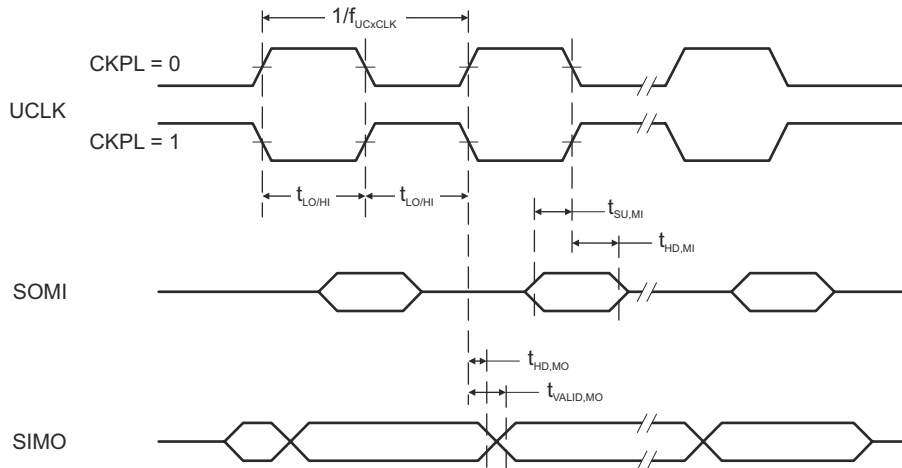
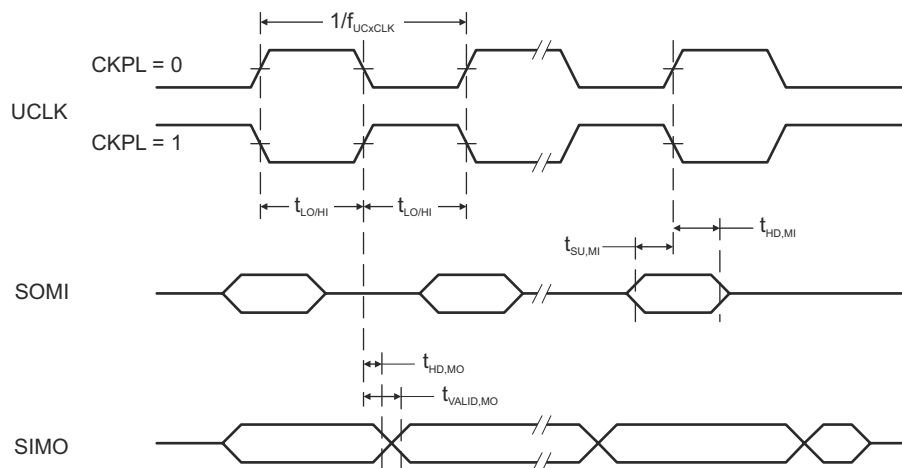

图 8-13. SPI Master Mode, CKPH = 0
图 8-14. SPI Master Mode, CKPH = 1
(see Figure 8-13 and Figure 8-14)
- (2) Specifies the time to drive the next valid data to the SIMO output after the output changing UCLK clock edge. See the timing diagrams in Figure 8-13 and Figure 8-14.
- (3) Specifies how long data on the SIMO output is valid after the output changing UCLK clock edge. Negative values indicate that the data on the SIMO output can become invalid before the output changing clock edge observed on UCLK. See the timing diagrams in 图 8-13 and 图 8-14.